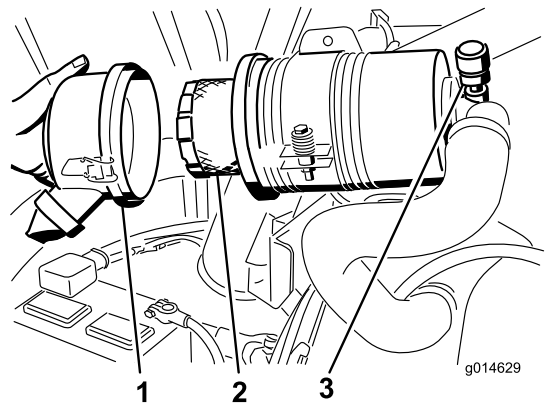

Figure 53
4. Remove and replace the filter (Figure 53).